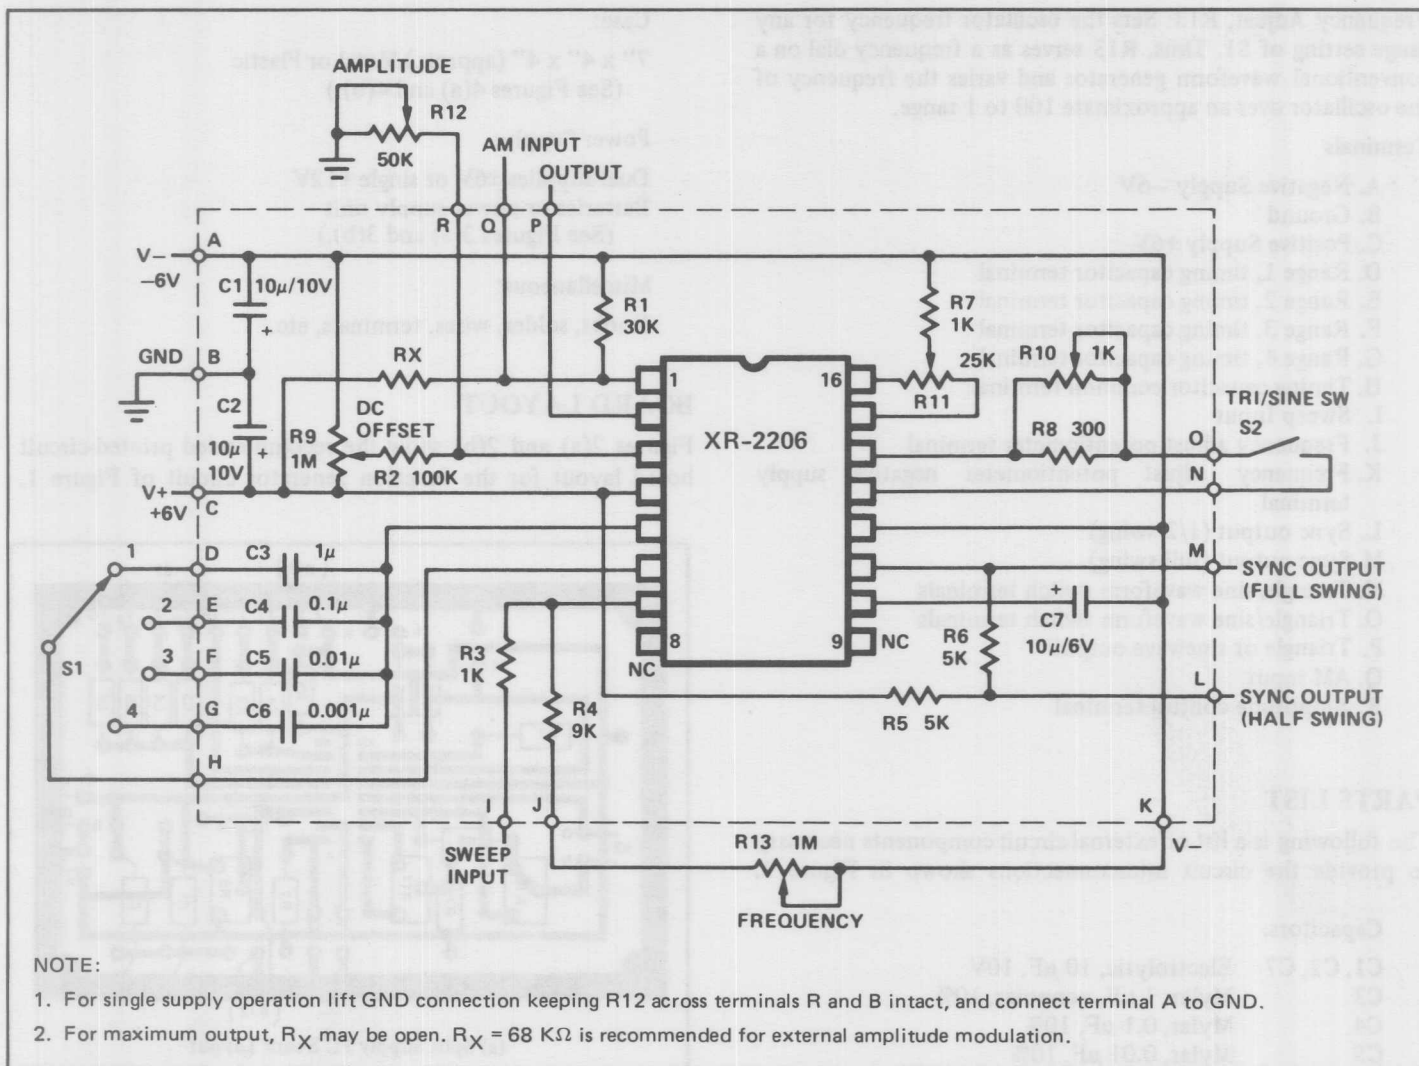

Figure 1. Circuit Connection Diagram for Function Generator. (See Note 1 for single supply operation.)
The performance characteristics listed below are not guaranteed or warranted by Exar. However, they represent the typical performance characteristics measured by Exar's application engineers during the laboratory evaluation of the function generator system shown in Figure 1. The typical performance specifications listed below apply *only* when all of the recommended assembly instructions and adjustment procedures are followed:
- (b) **Frequency Setting:** At any range setting, frequency can be varied over a 100:1 tuning range with a potentiometer (see R13 of Figure 1).
The above expression is accurate to within  $\pm 5\%$  at any range setting. The timing resistor R is the series combination of resistors R4 and R13 of Figure 1. The timing capacitor C is any one of the capacitors C3 through C6, shown in the figure.
- (d) **Sine and Triangle Output:** The sine and triangle output amplitudes are variable from 0V to 6 Vpp. The amplitude is set by an external potentiometer, R12 of Figure 1. At any given amplitude setting, the triangle output amplitude is approximately twice as high as the sinewave output. The internal impedance of the output is 600 $\Omega$ .
- (f) **Sync Output:** The sync output provides a 50% duty cycle pulse output with either full swing or upper half swing of the supply voltage depending on the choice of sync output terminals on the printed circuit board (see Figure 1).
- (g) **Frequency Modulation (External Sweep):** Frequency can be modulated or swept by applying an external control voltage to sweep terminal (Terminal I of Figure 1). When not used, this terminal should be left open-circuited. The open circuit voltage at this terminal is approximately 3V above the negative supply voltage and its impedance is approximately 1000 ohms.
(h) **Amplitude Modulation (AM):** The output amplitude varies linearly with modulation voltage applied to AM input (terminal Q of Figure 1). The output amplitude reaches its minimum as the AM control voltage approaches the half of the total power supply voltage. The phase of the output signal reverses as the amplitude goes through its minimum value. The total dynamic range is approximately 55 dB, with AM control voltage range of 4V referenced to the half of the total supply voltage. When not used, AM terminal should be left open circuited.